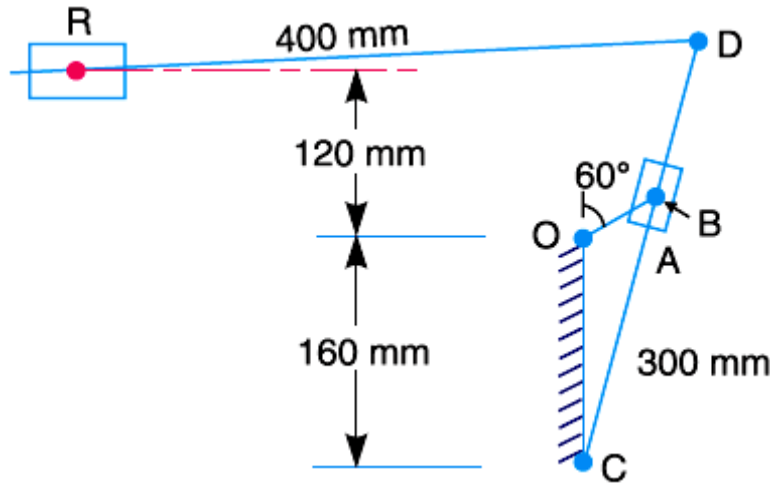

Fig: 6
- 6 a) In a quick return mechanism, as shown in the fig: 6, the driving crank OA is 60 mm long and rotates at a uniform speed of 200 r.p.m. in a clockwise direction. For the position shown, find i) velocity of the ram R; ii) acceleration of the ram R, and iii) acceleration of the sliding block A along the slotted bar CD. [7M]